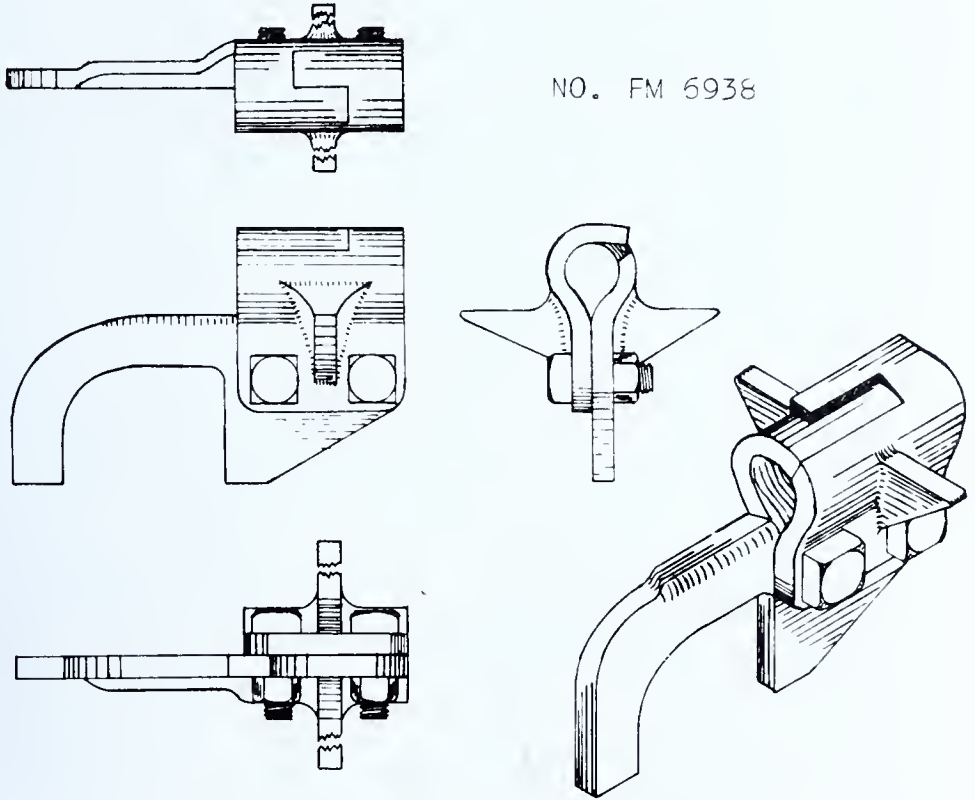

FIG. 467 — No. 3 and No. 4 Soot-Blower Bearing
4. Land remaining sectional headers (shown in Fig. 465, at the right) lashing each following section to the preceding one. Make sure that No. 3 and No. 4 soot-blower bearings (Fig. 467) are correctly installed as shown on blueprint.